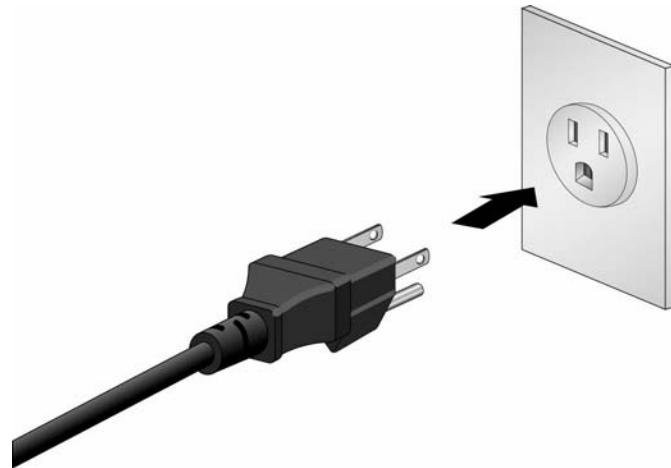

Figure 29. Connecting the Power Cord on the PWRADP-01 Power Adapter to an AC Source
3. Connect the power adapter' into an appropriate AC power source. Refer to Figure 29.